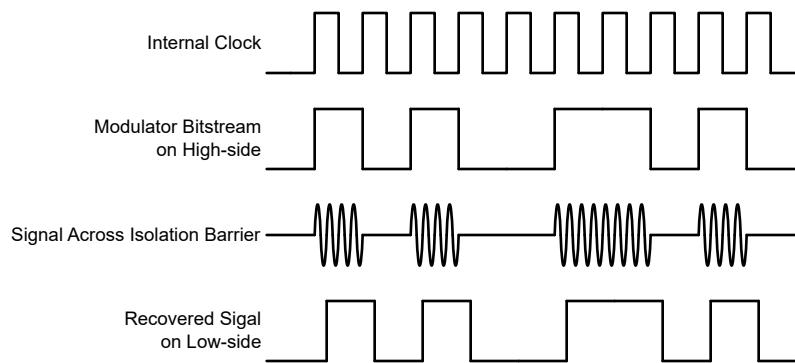

Figure 7-1. OOK-Based Modulation Scheme
As shown in Figure 7-1, the AMC0380D-Q1 uses an on-off keying (OOK) modulation scheme to transmit the modulator output bitstream across the SiO_2 -based isolation barrier. The transmit driver (TX) is illustrated in the Functional Block Diagram. TX transmits an internally generated, high-frequency carrier across the isolation barrier to represent a digital one. However, TX does not send a signal to represent a digital zero. The nominal frequency of the carrier used inside the AMC0380D-Q1 is 480MHz.